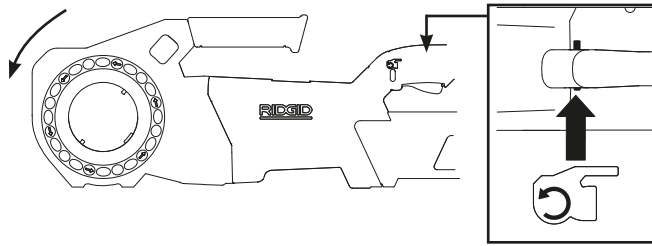

Figure 5B – REVERSE (Counter-Clockwise) Switch Position
- Repeat the process for the Reverse operation (*see Figure 5B*). If the power drive does not rotate in the correct direction, or the ON/OFF switch does not control the machine operation, do not use the machine until it has been repaired.